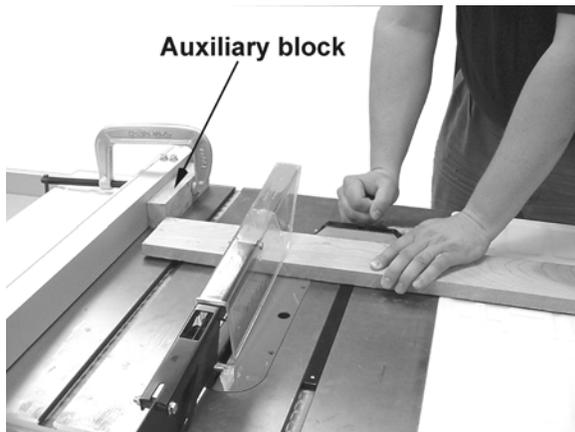

Figure 42
- Do not use the miter gauge and rip fence in the same operation unless provision is made by use of a facing board on the fence so as to allow the cutoff section of the workpiece to come free before the next cut is started (See Figure 42).
Crosscutting should **never** be done freehand nor should the fence be used as an end stop unless an auxiliary block is clamped to the front of the blade area such that the cutoff piece comes free of the block before cutting starts (Figure 42).